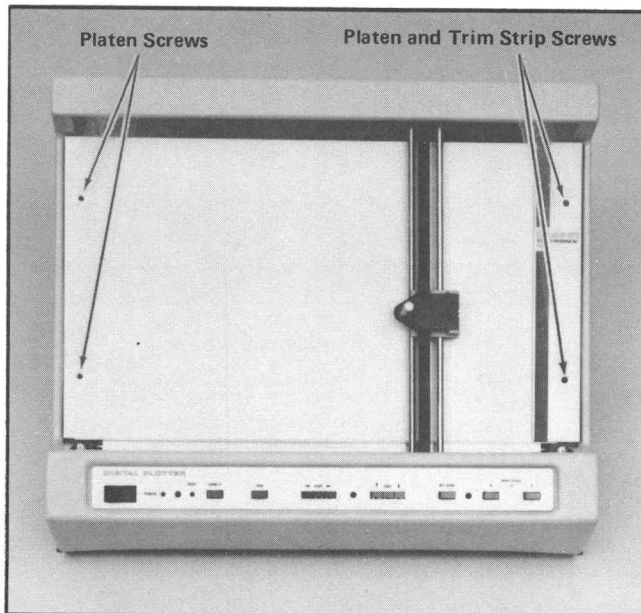

Fig. 1-5. Platen removal and alignment screws.
2. Remove the four allen screws that attach the platen and the 4661 trim strip to the frame, keeping track of the location from which the screws are removed. See Fig. 1-5. The screws are of different lengths, and noting their position aids in reassembly. Remove the trim strip.